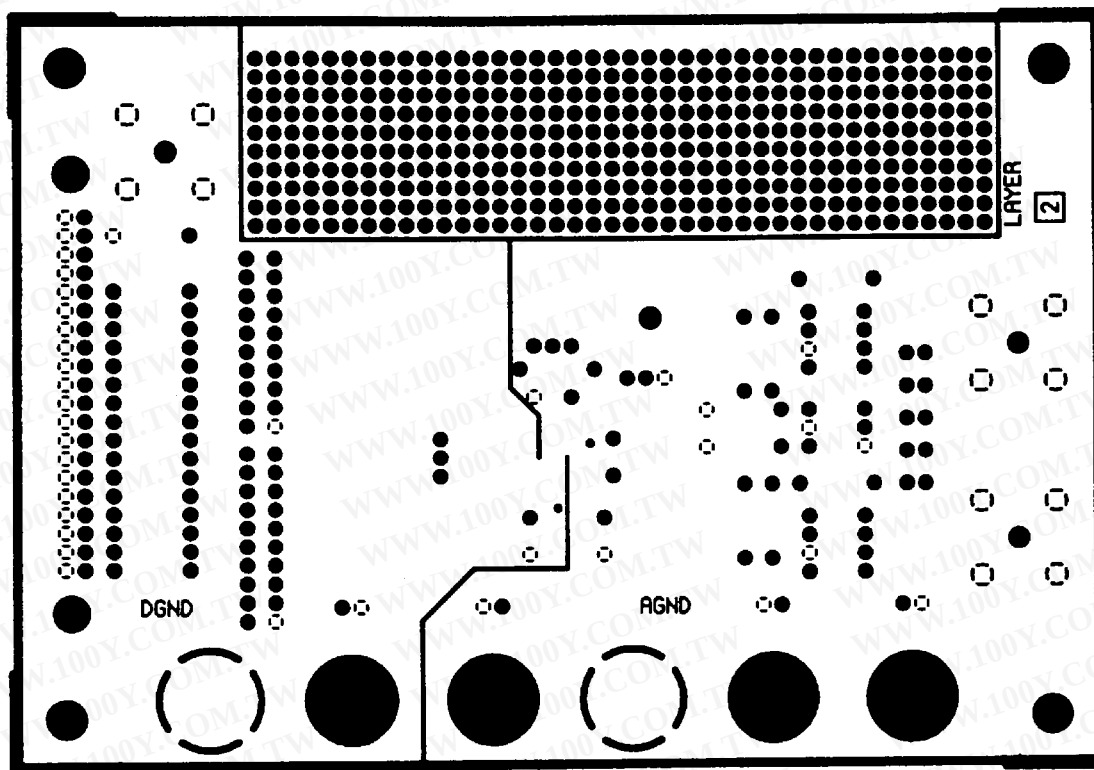
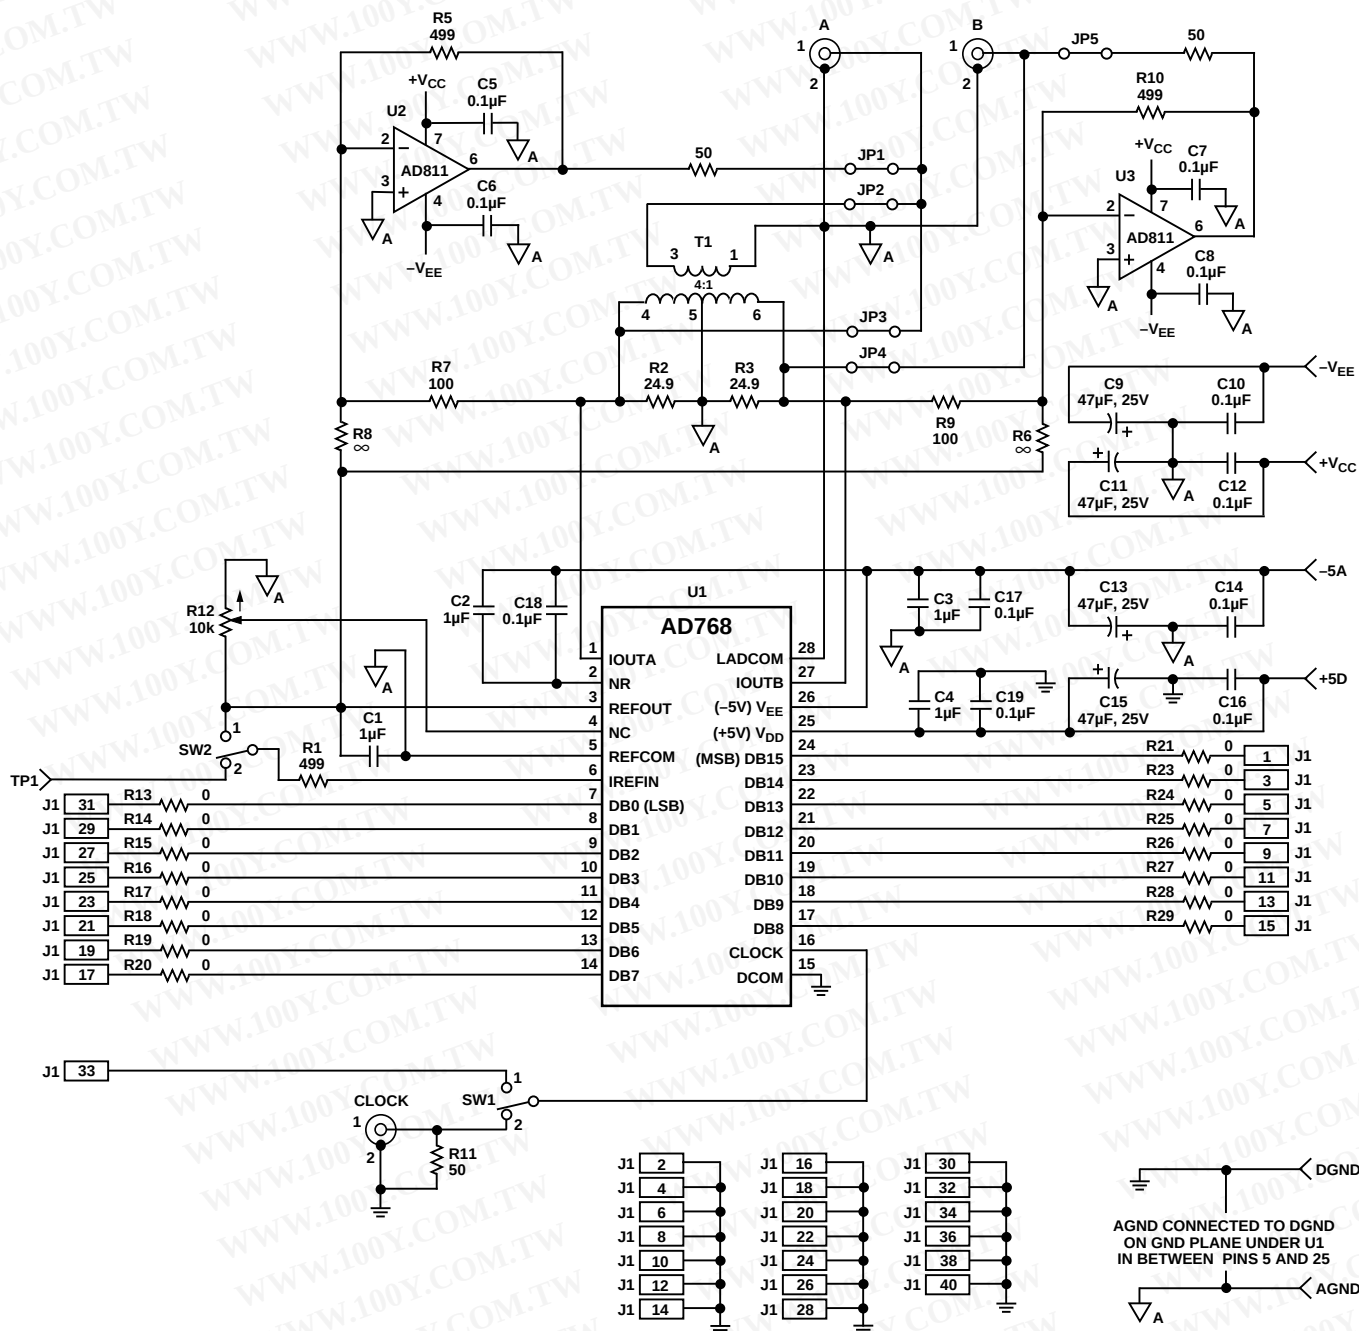

Figure 28. Printed Circuit Board Ground Plane Layout
Figure 35. AD768 Evaluation Board Schematic
Maintaining low noise on power supplies and ground is critical to obtaining optimum results from the AD768. Figure 28 provides an illustration of the recommended printed circuit board ground plane layout which is implemented on the AD768 evaluation board.
All analog ground pins of the DAC, reference, and other analog output components, should be tied directly to the analog ground plane. The two ground planes should be connected by a path 1/4 to 1/2 inch wide underneath or within 1/2 inch of the DAC as shown in Figure 28. Care should be taken to ensure that the ground plane is uninterrupted over crucial signal paths. On the digital side, this includes the digital input lines running to the DAC as well as any clock signals. On the analog side, this includes the DAC output signal, reference signal, and the supply feeders.
Figures 28 and 29 show the AD768-EB ground and power plane layouts. Figures 35–38 show the schematic diagram, trace routing, silk screening, and component layout for the AD768 4 layer evaluation board.
Separate ground and power planes have several advantages for high speed layouts. (For further information outlining these advantages, see the application note "Design and Layout of a Video Graphics System for Reduced EMI" [E1309] available from Analog Devices [(617) 461-3392].) A solid ground plane can be used if the digital return current can be routed such that it does not modulate the analog ground plane. If this is not possible, it may be necessary to split the ground plane in order to force currents to flow in a controlled direction. This type of grounding scheme is shown in the Figure 28. The ground plane is separated into analog and digital planes that are joined together under the AD768. In any case, the AD768 should be treated as an analog component and a common ground connection should be made underneath the AD768 despite some pins being labeled "digital" ground and some as "analog" ground.